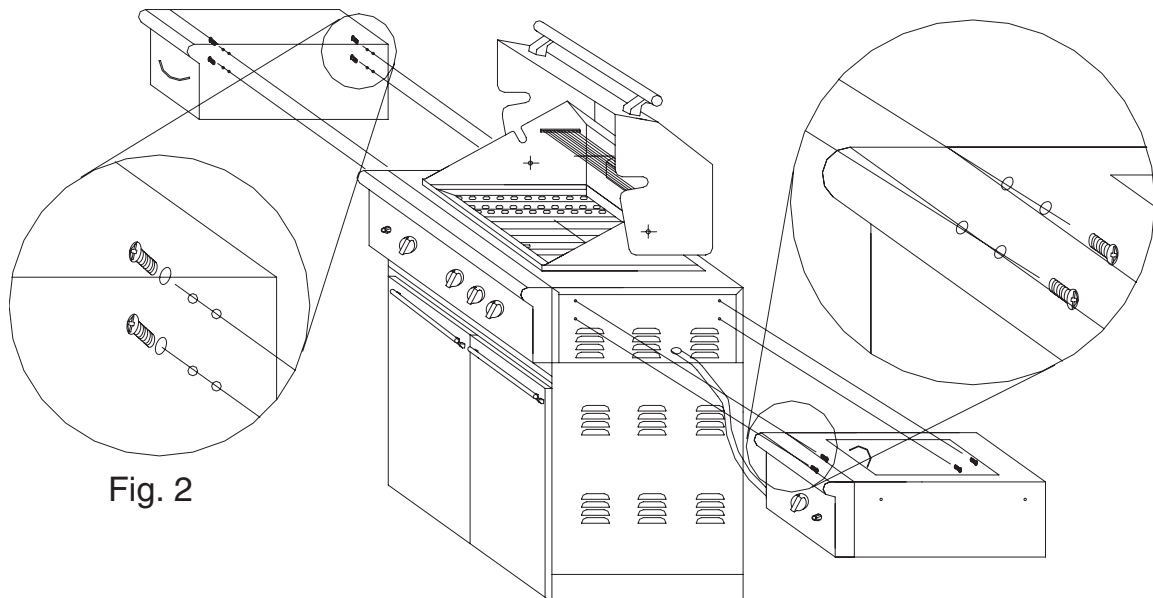

Fig. 2
2. The screws used to attach the side shelf and side burner are already screwed into the two side panels. Remove the screws from the side panels. (See Fig. 2)